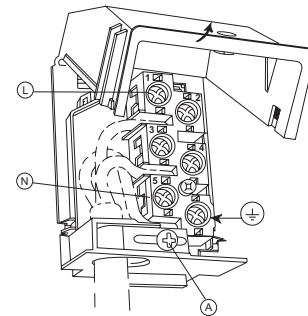

Fig. 10
- open the box of the supply board as described on the picture below (fig.10);